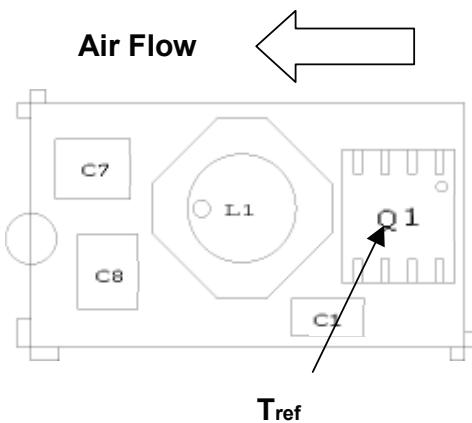
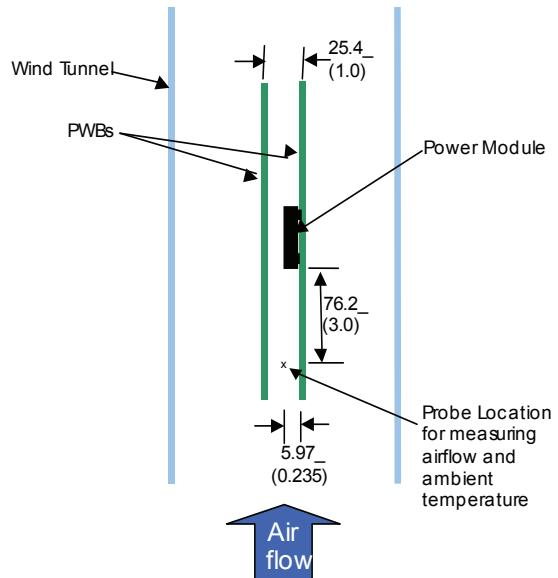

Figure 31. T_{ref} Temperature measurement location.
Figure 32. Thermal Test Set-up.
To provide over temperature protection in a fault condition, the unit relies upon the thermal protection feature of the controller IC. The unit will shutdown if the thermal reference point T_{ref2} , (see Figure 31) exceeds $140^{\circ}C$ (typical), but the thermal shutdown is not intended as a guarantee that the unit will survive temperatures beyond its rating. The module will automatically restart after it cools down.
Considerations include ambient temperature, airflow, module power dissipation, and the need for increased reliability. A reduction in the operating temperature of the module will result in an increase in reliability. The thermal data presented here is based on physical measurements taken in a wind tunnel. The test set-up is shown in Figure 32. Note that the airflow is parallel to the long axis of the module as shown in figure 31. The derating data applies to airflow in either direction of the module's long axis.
The thermal reference point, T_{ref} used in the specifications is shown in Figure 32. For reliable operation this temperature should not exceed 115°C.